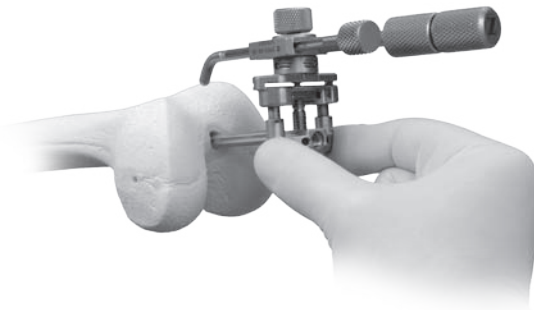
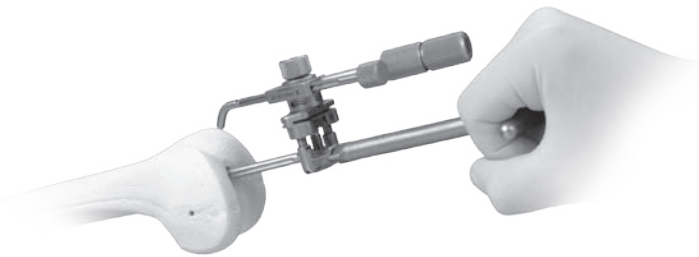

Fig.7
Fig.8
- Insert the IM Guide into the medullary canal until the proximal aspect of the guide slightly contacts the distal femoral sulcus. The guide may be inserted by hand (Fig. 7) or with the Inserter/Extractor handle (Fig. 8).